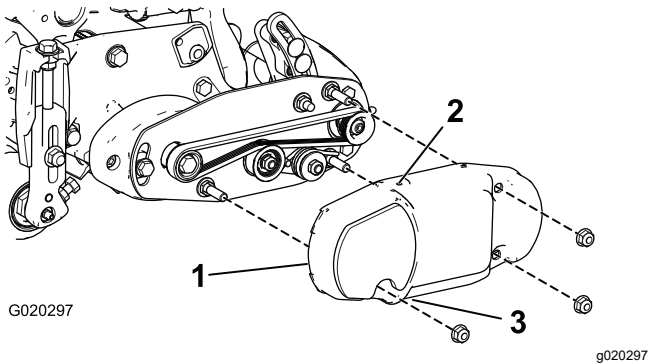

**Figure 15**
- B. Lay a straight edge along the outer face of the **drive** pulley (Figure 15). **Do not** lay the straight edge across both the drive and driven pulleys.